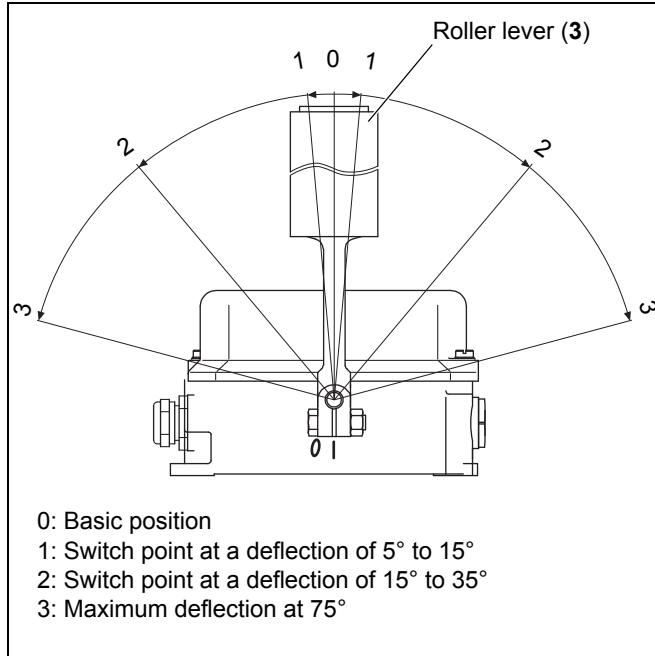

Fig. 5-9: Adjusting the switch points
3. Adjust the switch point 1 (advance warning) (see figures 5-9 and 5-10).
- d. Tighten the second screw (15) so that the cam (11) is fixed in the newly set position.
5. Check the set switch points (see figure 5-9, page 21).